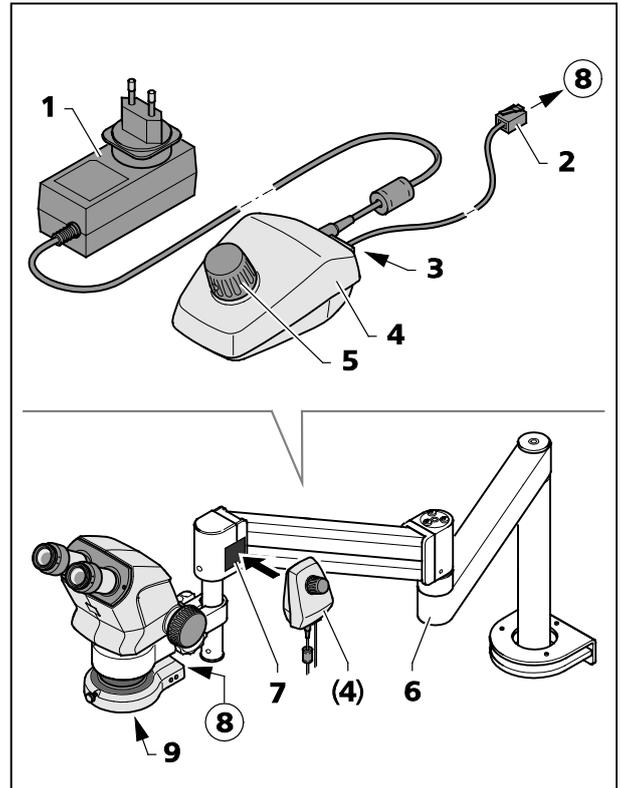

Fig. 18 Controller K LED
The controller K LED (Fig. 18/4) is used to operate the ring illuminator K LED, when stands without LED electronics are used (such as boom stands B or SDA, floor stand S, tilting arm stand U or desktop stands K, M and N).
- Screw-fasten the front lens system (Fig. 18/7) to the microscope body.
- Secure the adhesive side of the magnetic plate (Fig. 18/7) to the swivel arm stand.
- Plug the connection cable supplied with the device (1 m long) (Fig. 18/2) into the socket (Fig. 18/8) on the ring illuminator and into the socket (Fig. 18/3) on the back of the controller K.
- Place controller K LED (Fig. 18/4) next to the magnetic plate (Fig. 18/7).
- Connect controller K LED to the power supply using the power unit (Fig. 18/1).
- Align swivel arm stand (Fig. 18/6) to enable an ergonomic working position.
- Turn the knob (Fig. 18/5) on the controller K to switch the ring illuminator ON and adjust illumination intensity by turning the knob.